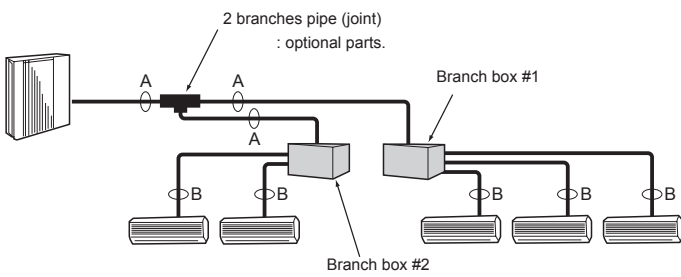

Fig. 5-3
5.4. Selecting pipe size (Fig. 5-3)